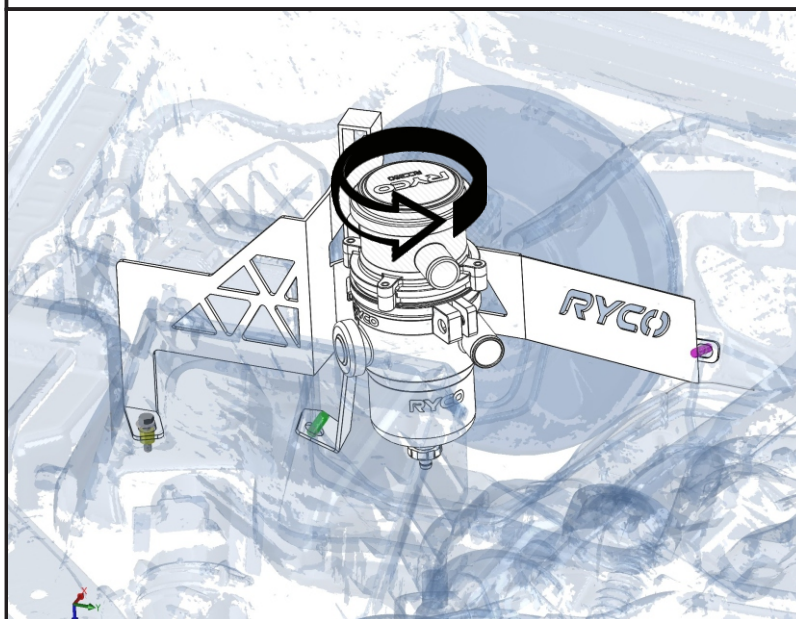

FIG. 11b CATCHCAN FITMENT
11. Proceed to rotate the RCC350 to match the alignment shown in FIG. 11b, ensuring clearance to the Engine Airbox.